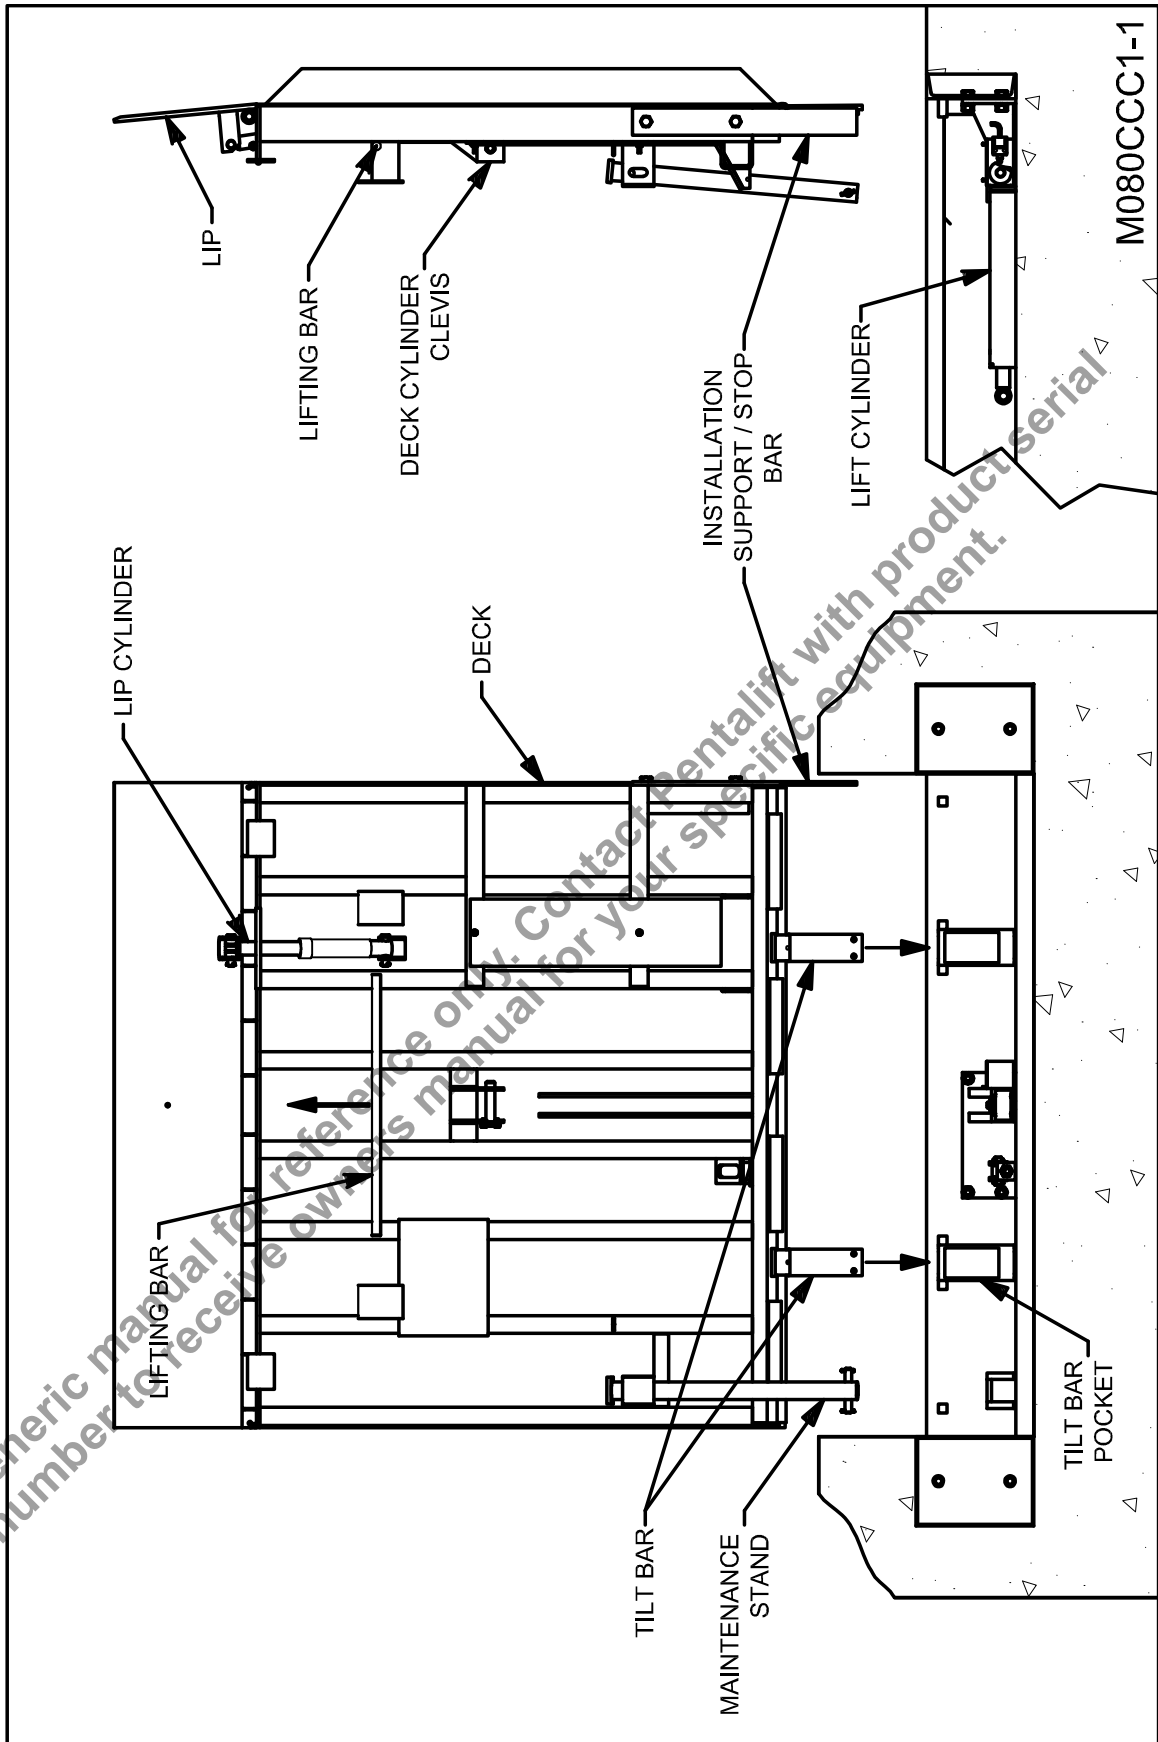
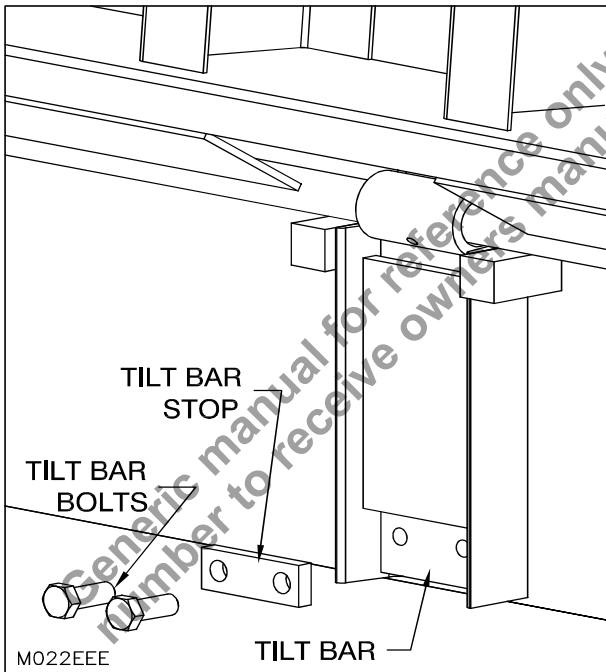

Figure 13: Installation Outline
Figure 15: Tilt Bar Bolts and Stop
10. Remove tilt bar bolts and tilt bar stops and retain (See “Figure 13: Installation Outline” on page 23 and “Figure 15: Tilt Bar Bolts and Stop” on page 24).
14. ___ Hoist leveler into a vertical position by using the lifting bar welded to the deck assembly (See “Figure 13: Installation Outline” on page 23). Lower the dock leveler so that the tilt bars slide into the tilt bar pockets on the rear mounting channel and the tilt stop assembly bar slides into the slot on the tilt stop bracket welded on the deck.
15. ___ Re-Install the four (4) tilt bar bolts and two (2) tilt bar stops into the tilt bars. The bolts should be torqued to a range between 106 ft-lb and 119 ft-lb (See “Figure 15: Tilt Bar Bolts and Stop” on page 24).
26. ___ Remove installation support / stop bar (see “Figure 13: Installation Outline” on page 23).
5. ___ Installation Outline (see “Figure 13: Installation Outline” on page 23)
8. ___ Tilt Bar Bolts and Stop (see “Figure 15: Tilt Bar Bolts and Stop” on page 24)